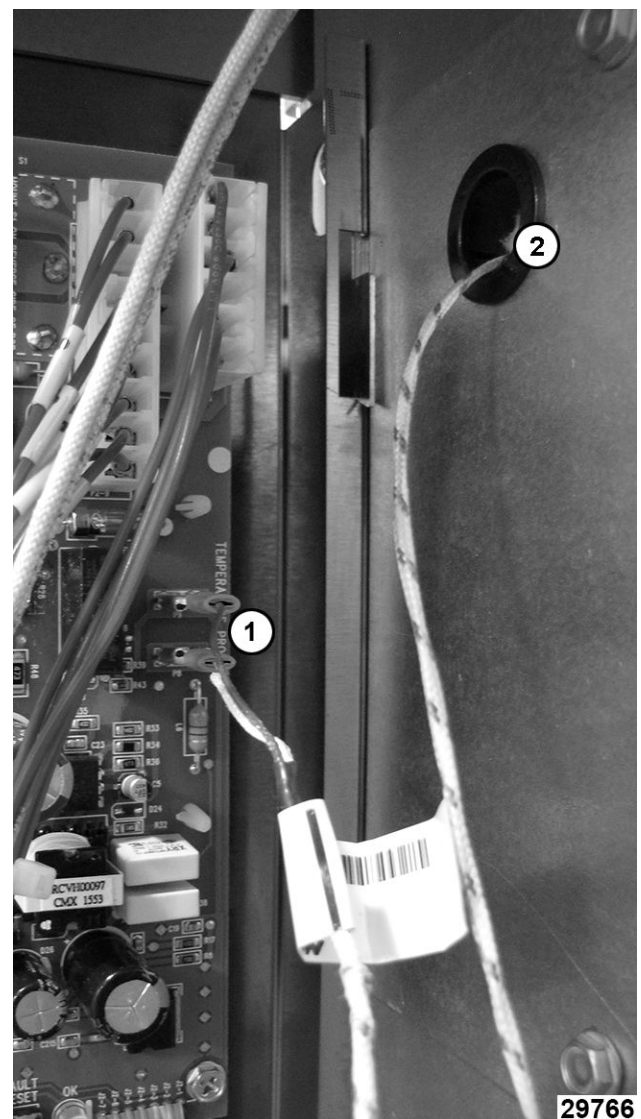

Fig. 8
2. Disconnect the probe leads (1, Fig. 8) from the solid state temperature control.
5. Remove probe by pushing it through the oven wall opening (2, Fig. 8) in control panel area.